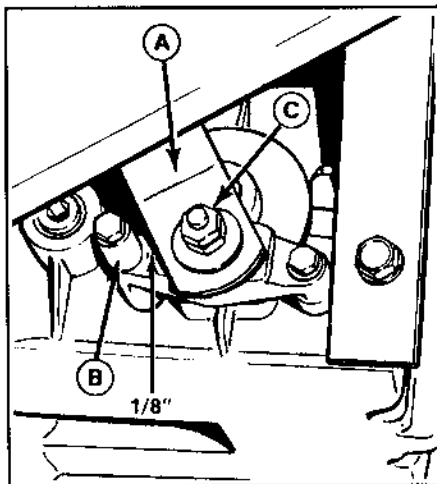

Figure 25. Parking Brake Adjustment
- Push the cam lever (A, figure 25) forward (toward front of tractor) to take out any slack. The gap between lever (A) and stop (B) should be $\frac{1}{8}$ inch (0.3 mm). Use a feeler gauge to measure. If not $\frac{1}{8}$ inch, perform step "c".
- Loosen or tighten the adjustment nut (C) to achieve correct dimension. Some models are equipped with two nuts. If so, loosen the outer nut, adjust the inner nut as necessary, then tighten the outer nut.